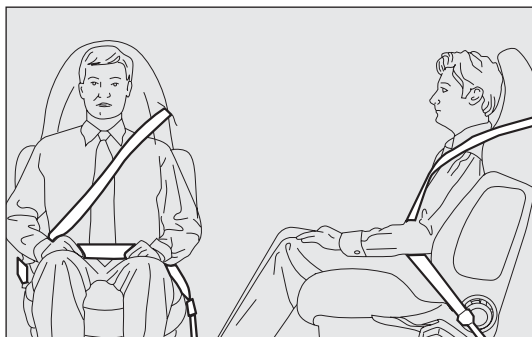

fig. 110
**The belt must not be twisted. The upper part must pass over the shoulder and cross the chest diagonally. The lower part must adhere to the pelvis fig. 110 not to the abdomen. Do not use devices (clips, clamps, etc.) that prevent the belts from being tight against to the passengers' bodies.**